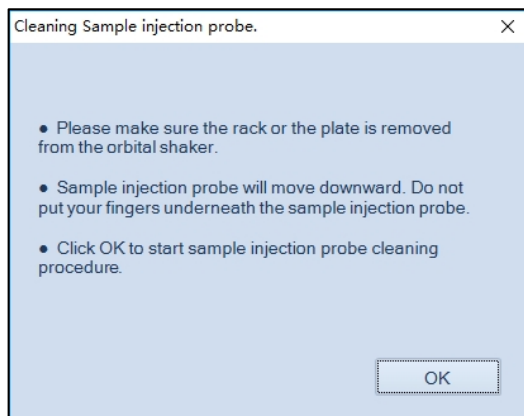

Figure 49. Software Message When Starting the SIP Cleaning Procedure with NovoSampler Q Installed
- 3 Follow the instruction in the software, remove the tube rack or sample plate. Click **OK** (Figure 49).